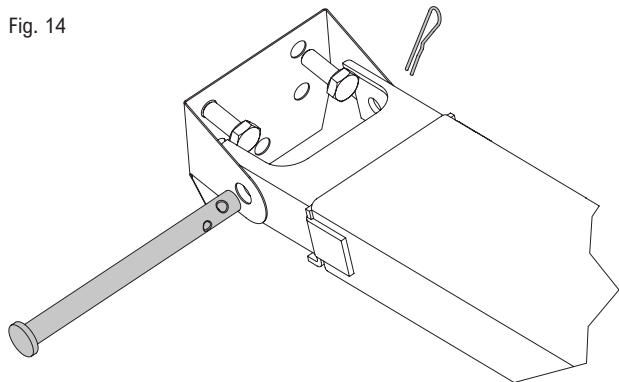

Fig. 14
- 7) Attach the rail to the wall bracket using the pivot and pin coming with the bracket (Fig. 14).